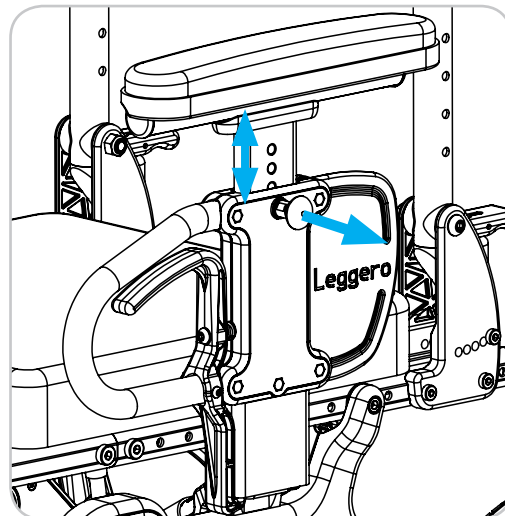

Figure 33
1. Pull out pull pin knob. Reference Figure 33.